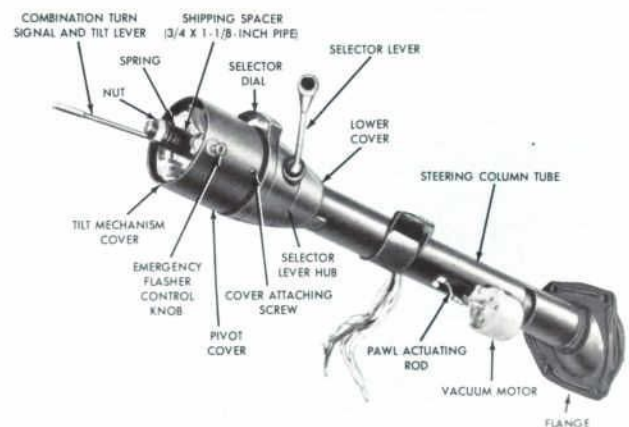

Fig. 13 — Tilt-Away Steering Column
3. Slide the selector lever hub cover downward on the steering tube (Fig. 13).